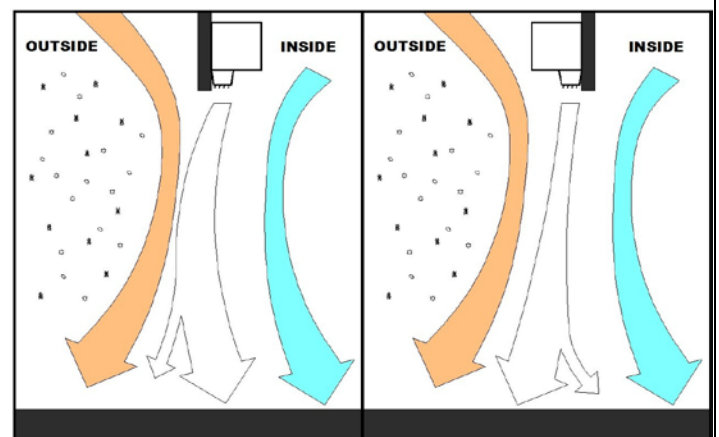

FIG. 4
- Regardless of whether the product is mounted on the inside or outside of the door opening, set the air directional vanes in the discharge nozzle slightly outward to approximately 10-15° towards the outside, or the wind load. (FIG. 4)